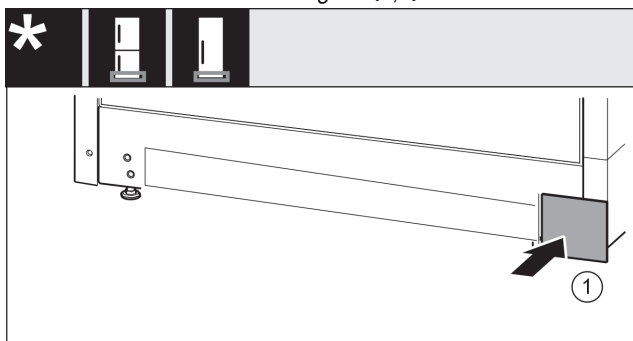

Fig. 16
- Put back the cover on the other side. Fig. 16 (1)